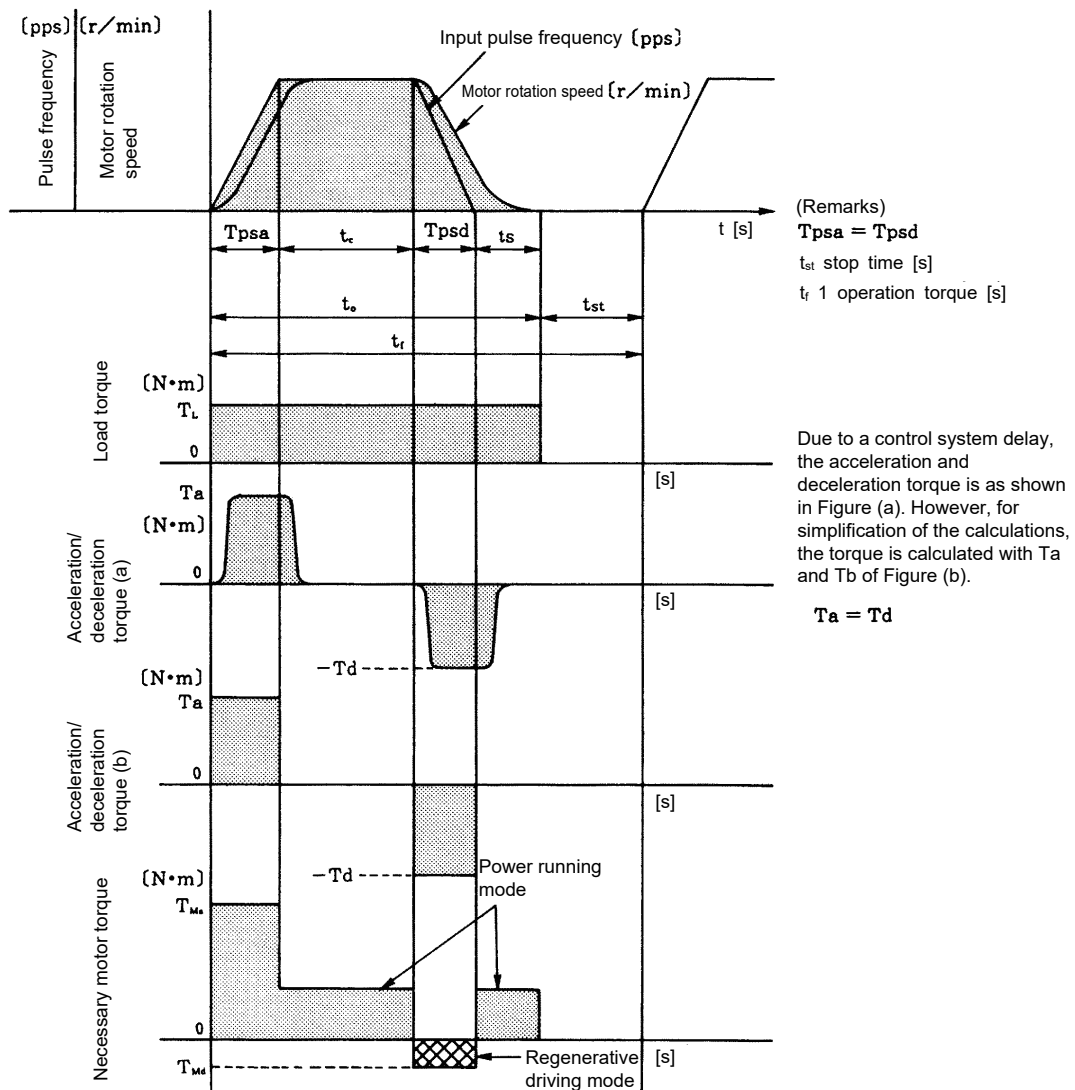

Figure 8.1 Operation pattern and torque pattern per section
- (4) When  $T_{Md} = T_L - T_d > 0$ , power running deceleration is activated, and the motor decelerates while supplying energy to the machine.
- (5) When  $T_{Md} = T_L - T_d < 0$ , regenerative braking is activated (the regenerative mode), the motor decelerates while applying a brake to the machine. Then, the regenerative power flows from the motor side to the servo amplifier side.
- (6) The deceleration pattern and torque pattern are organized as shown in Figure 8.1.
Usability of a motor is to be judged primarily by whether the motor can be used with the required motor torque shown in figure 8.1. In addition, the motor temperature rise and heat capacity of the regenerative brake are also required to be considered to use the motor continuously.